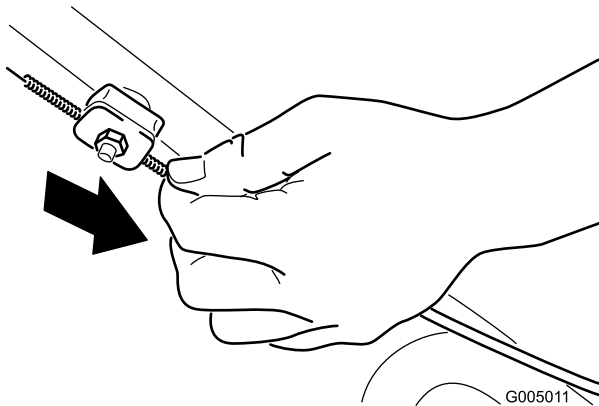

Figure 41
2. Pull down the cable jacket (toward the mower) until there is no slack in the cable (Figure 41).